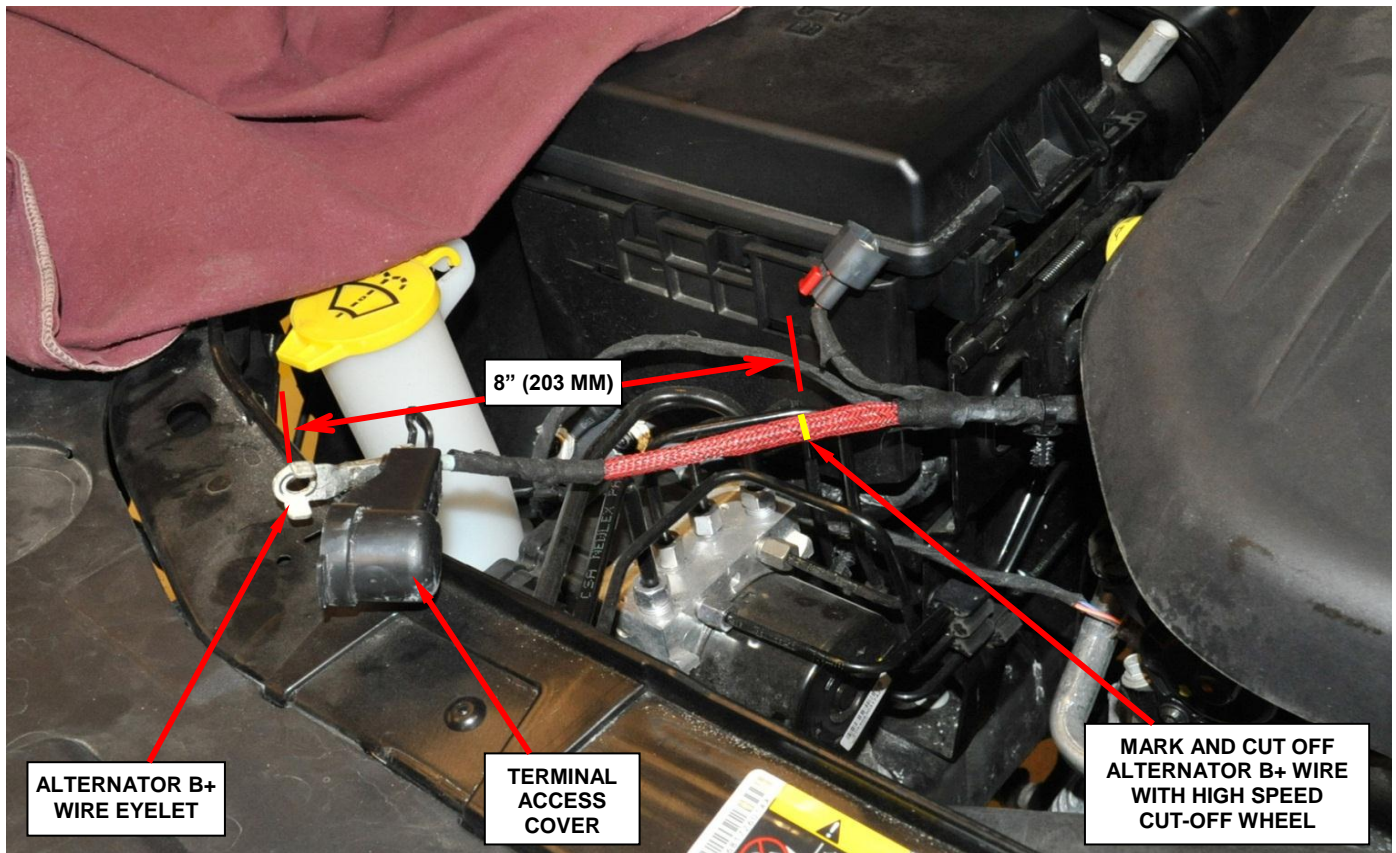

Figure 8 – Cut Off Alternator Wiring End
27. Using a high speed cut-off wheel, cut off the alternator B+ wire approximately 8 inches from the wire eyelet at the end of the alternator B+ wire (Figure 8).